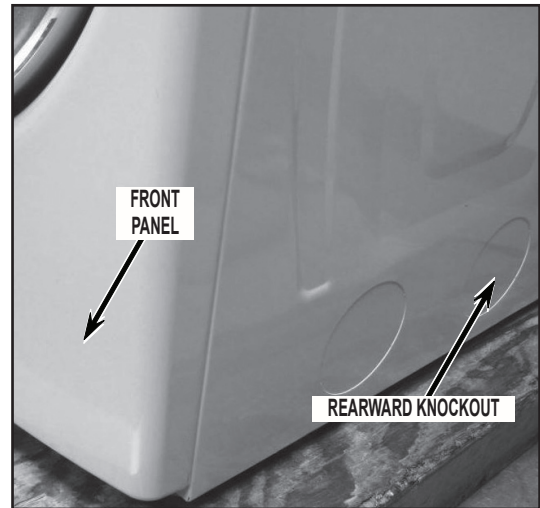

FIGURE 31
- As you are facing the dryer, review the lower section of the right side panel. If two (2) knockout features are present remove the **MOST REARWARD KNOCKOUT ONLY**. See *Figure 31*.